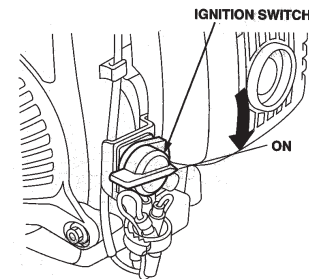

Figure 12. Ignition ON/OFF Switch (ON Position)
4. Place the **ignition ON/OFF switch** (Figure 12) in the "ON" position.